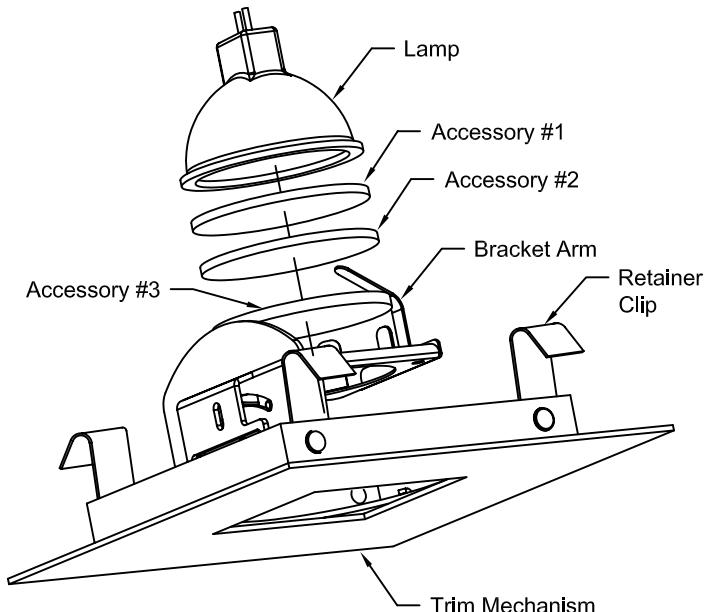

Figure 3
2. Slide out Lamp and/or Accessories from under Bracket Arm to remove. See Fig. 3.